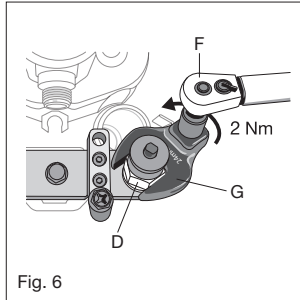

Fig. 6
5. Refer to Figure 6: Set torque wrench to **2 Nm** anti-clockwise rotation.